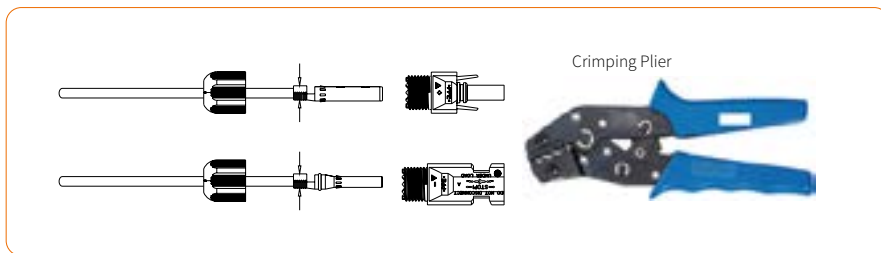

Figure 4-12
④ Insert the DC cable through the DC connector nut into the metal terminal and press the terminal with a professional crimping plier (pull back the cable with some power to check if the terminal is well connected to the cable), as shown in Figure 4-12: